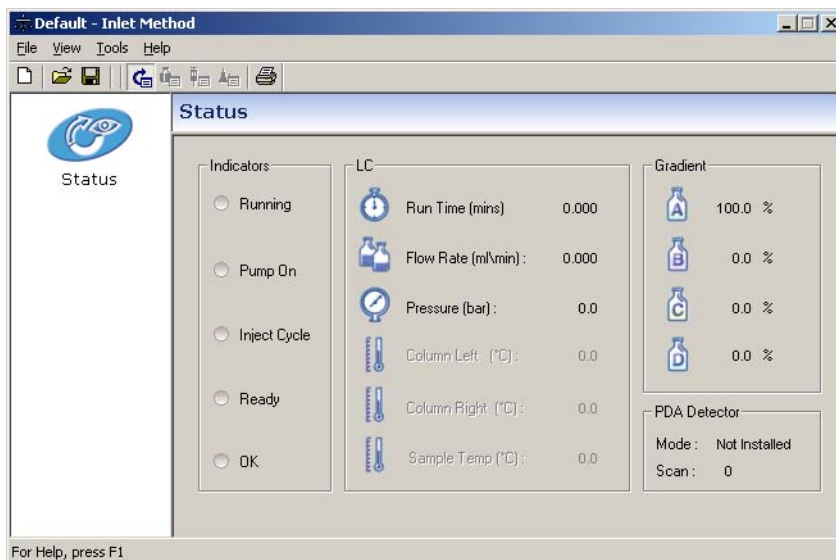

Figure 4-16 Inlet Method Window With No Inlets Installed
1. From the MassLynx Status Shortcut bar select Inlet Method from the to open the Inlet Method Editor (Figure 4-16).